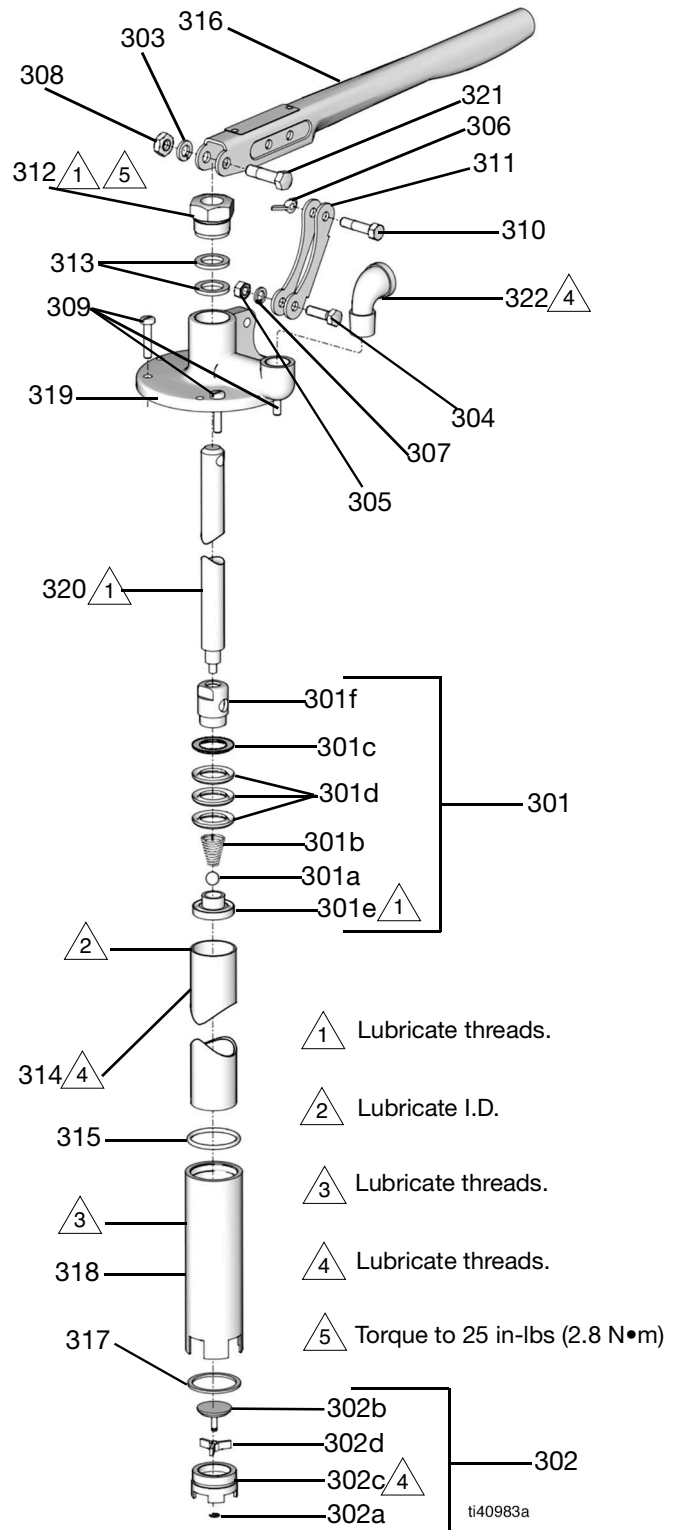

FIG. 3: Hand Pump Assembly, Model 204867, Series A
2. Slide the extension (318) up the riser tube (314) and expose the intake valve (302).
3. Unscrew the intake valve (302) from the riser tube (314). Disassemble the intake valve. Clean and inspect the parts. Replace worn or damaged parts.
4. Unscrew the riser tube (314) from the outlet housing (319).
5. Pull the riser tube (314) down off the connecting rod (320) and piston (301).
6. Unscrew the piston (301) from the connecting rod (320). Disassemble the piston. Clean and inspect the parts. Replace worn or damaged parts.
7. Loosen the packing nut (312).
8. Disconnect the connecting rod (320) from the pump lever (316). Pull the connecting rod (320) down out of the outlet housing (319).
9. Unscrew the packing nut (312) and remove the packings (313). Clean and inspect the parts. Replace worn or damaged parts.
10. Reassemble the pump in reverse order, following the lubrication and sealant notes in FIG. 3. Tighten the packing nut (312) just enough to stop leakage.